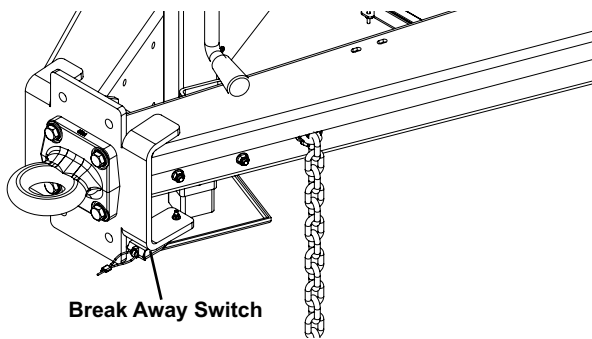

Figure 5
8. Plug in the electrical connections for the trailer brake lights and hook up the breakaway switch cable (Figure 5).